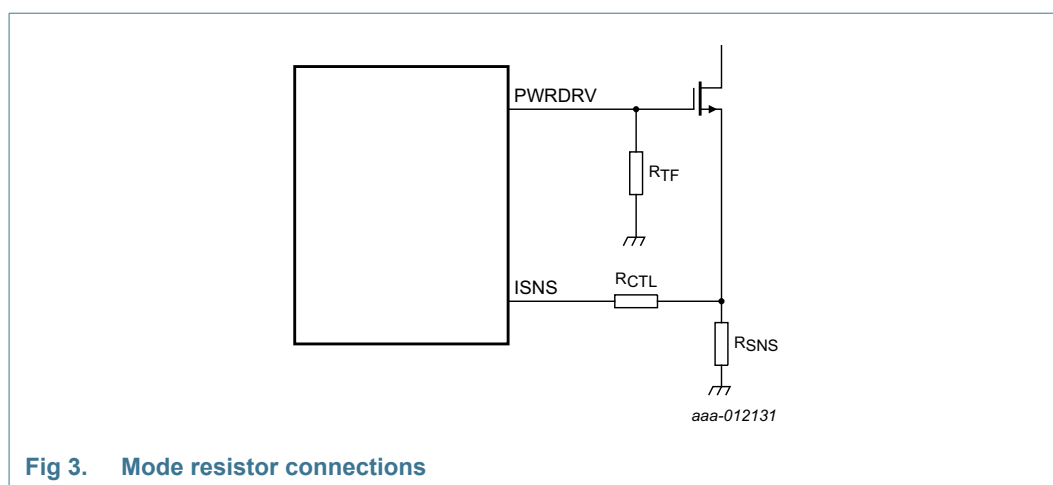

Fig 3. Mode resistor connections
The ISNS pin senses the voltage across the sense resistor,  $R_{SNS}$ , generated by the inductor current flowing through the external MOSFET and this resistor (see Figure 3).
The mode resistor at the PWRDRV ( $R_{TF}$ ) is connected to ground. The mode resistor at the ISNS pin ( $R_{CTL}$ ) is connected between the pin and the external MOSFET source (see Figure 3).
- $R_{SNS}$  is the sense resistor on pin ISNS (see Figure 3)